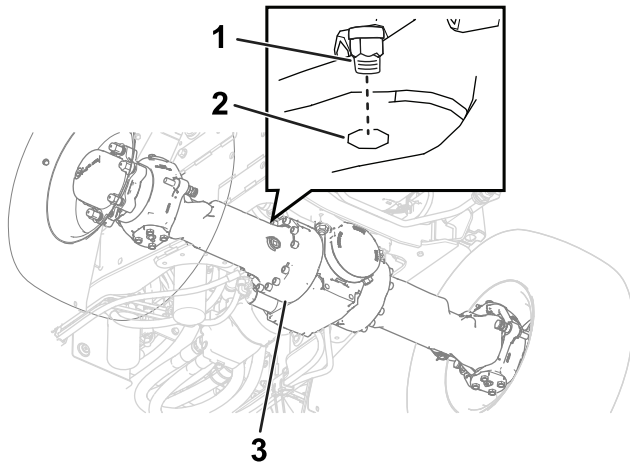
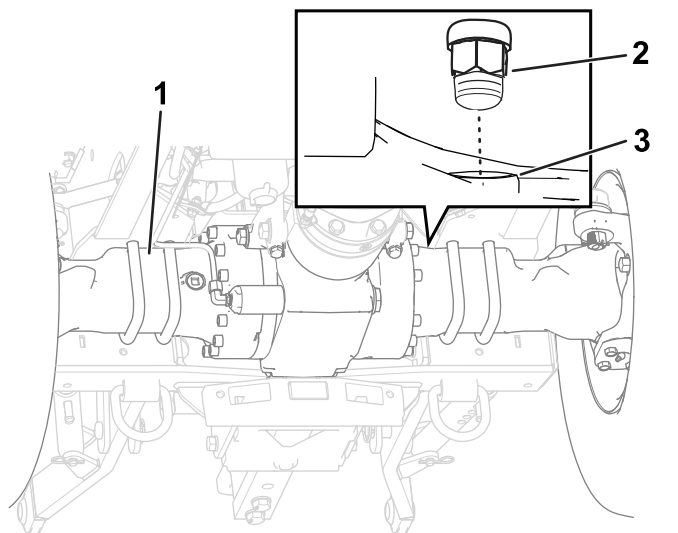

Figure 103
Figure 104
1. Clean the area around the breathers with a cleaning solvent (Figure 103 and Figure 104).
2. Remove the breathers from the front axle and rear axles (Figure 103 and Figure 104).
5. Install the breathers into the front and rear axles (Figure 103 and Figure 104).